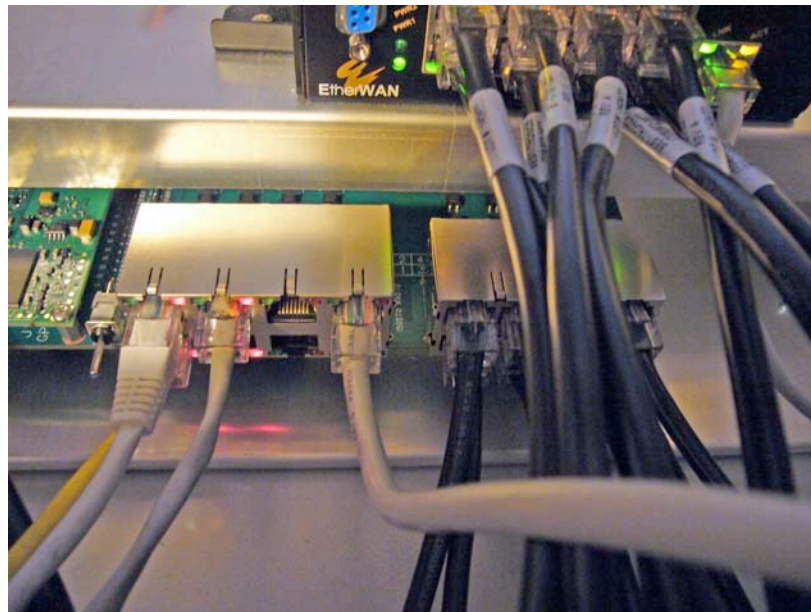
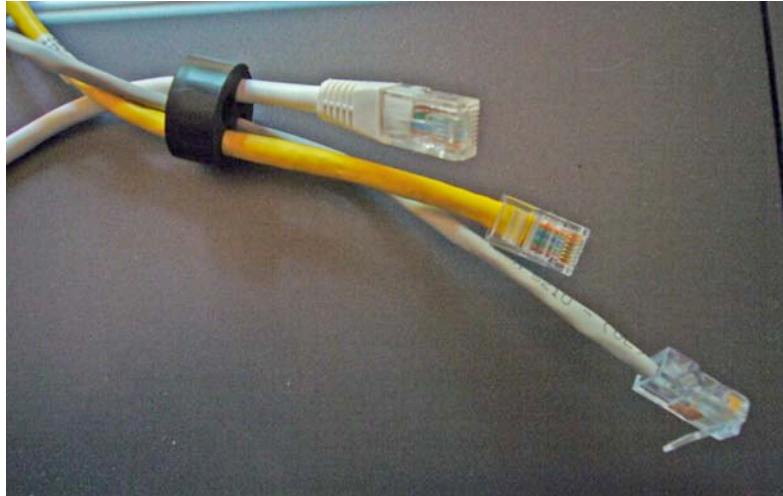

Figure 31: Ethernet Port Connections
Figure 32: Staggered Ethernet Cables
3. Route Ethernet cables through the cable gland connectors to the Ethernet ports inside the CMM4 cabinet (see the grey cables in Figure 31). Stagger the cables (see Figure 32) to make it easier to feed them through the gland.